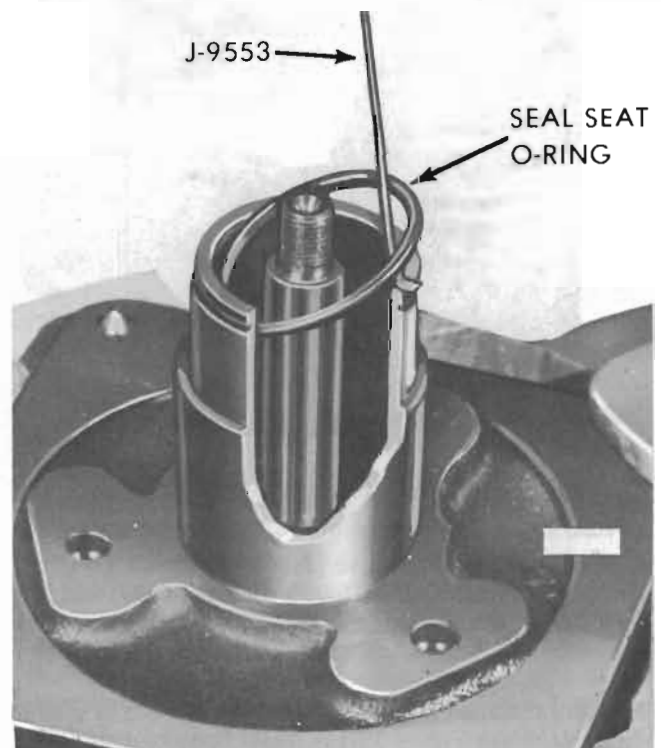

Figure 13-21 Removing Seal Seat O Ring
9. Remove the seal seat "O" ring, using Tool J-9553 (see Figure 13-21).